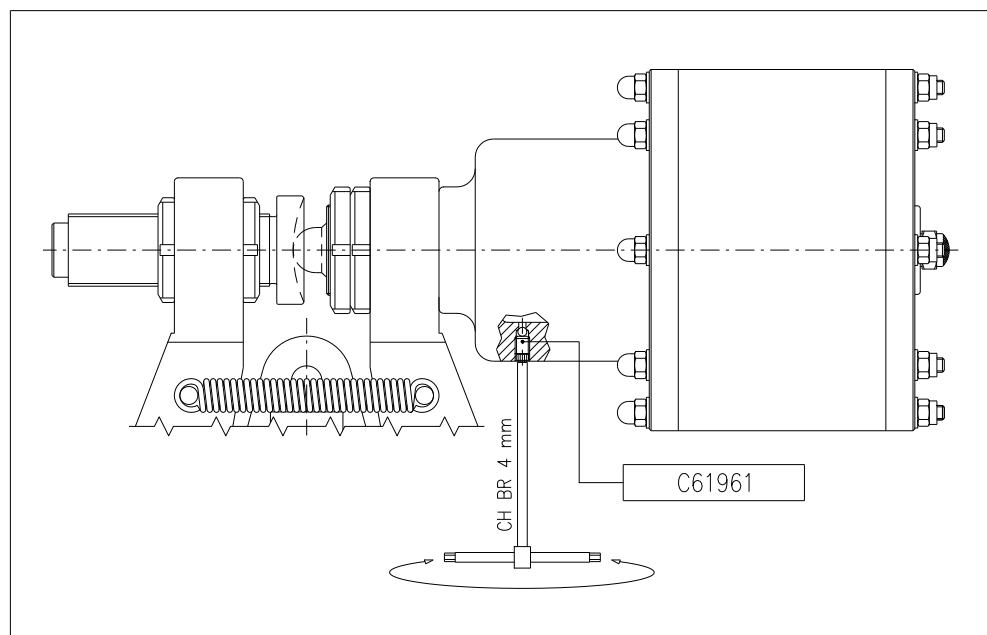

Figure 5
10. Bleed air out of the oil circuit by loosening the grub screw C61961 with a n. 4 Allen key, until oil begins to come out. When all the air has been bled out tighten the grub screw again (Figure 5).